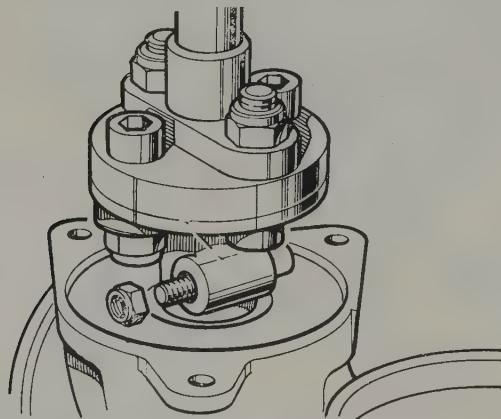

Fig. 11.39. Coupling to input shaft cotter pin (power steering box)
- 11 Remove the coupling assembly from the input shaft by withdrawing the cotter pin (Fig. 11.39).